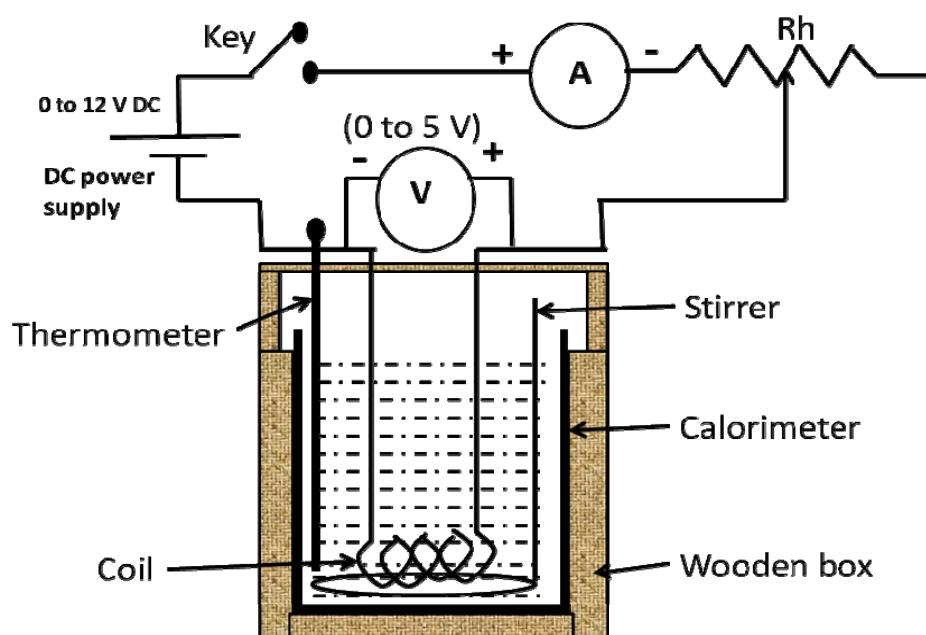

Fig.01
4. Connect the circuit as shown in Fig.01.
7. Adjust the current (I) to a desired value (say $I=1.5A$) using rheostat.
8. Note down the corresponding voltage (V).